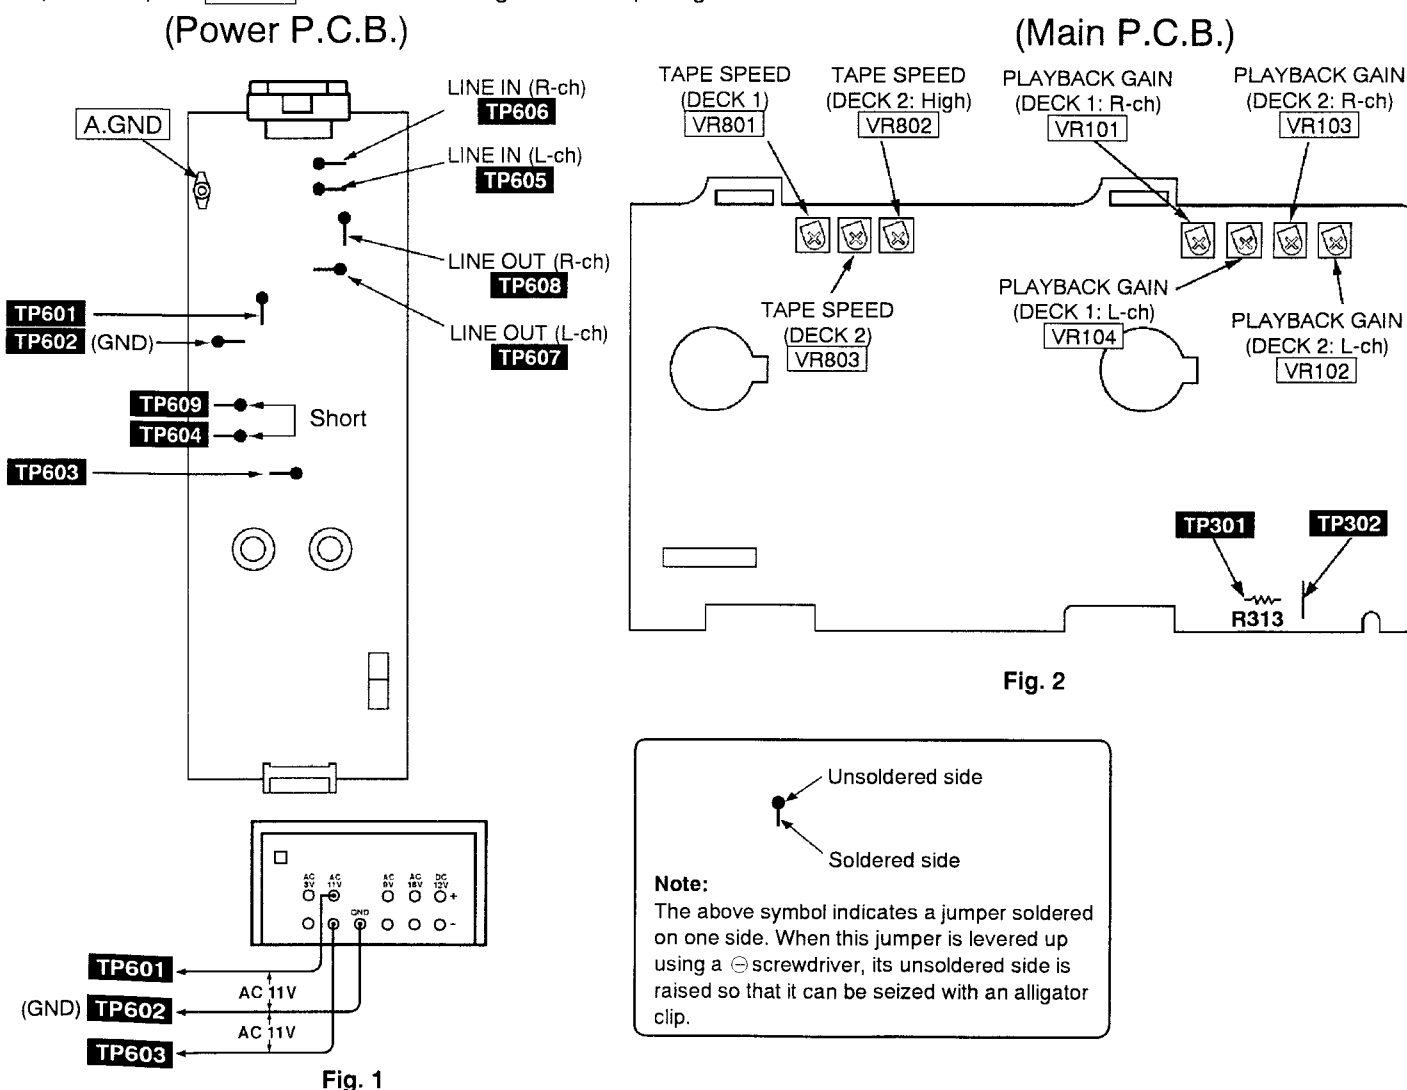

Fig. 2
2. Adjust Deck 1 = **VR801** and Deck 2 = **VR803** for the output value shown below. (Refer to Fig. 2)
6. Adjust **VR802** so that the output frequency of DECK 2 is within ± 30 Hz of the value of the output frequency of DECK 1. (Refer to Fig. 2.)
3. Adjust Deck 2 : **VR102** (L-ch) [**VR103** (R-ch)] and Deck 1 : **VR104** (L-ch) [**VR101** (R-ch)] so that the output is within the standard value. (Refer to Fig. 2.)